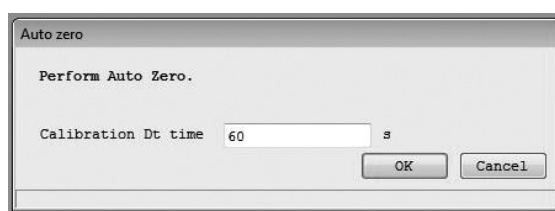

Fig. 3-61
- (1) Click "Diag/Service (T)" from the menu, and then click on "Auto zero" from the drop-down list of "Calibration".
- (2) The following window (Fig. 3-61) will be displayed. Set the calibration time and stop the fluid completely, and then click "OK" button.
- (4) By clicking "OK" button, the zero point adjustment will be executed. When it is started, the message box (Fig. 3-63) will be displayed. By clicking "OK" button, the window will return to the window shown in Fig. 3-61. Click "Cancel" button to exit it. During this time, the transmitter executes the zero point adjustment.